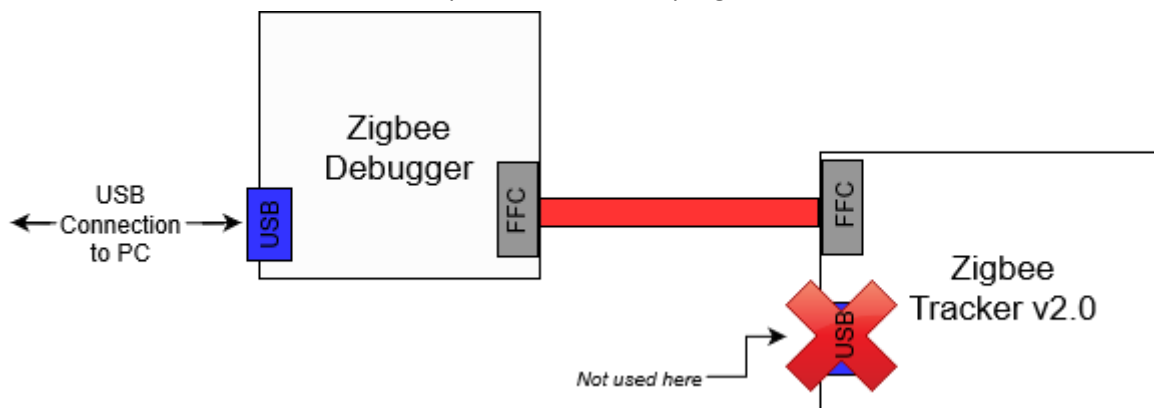

Figure 4.1.1a: Zigbee Tracker v2.0 Bootloader Connections
3. Connect the Zigbee Tracker v2.0 to the Zigbee Debugger with the FFC and plug the USB connector of the Zigbee Debugger into a PC, as shown in Figure 4.1.1a.